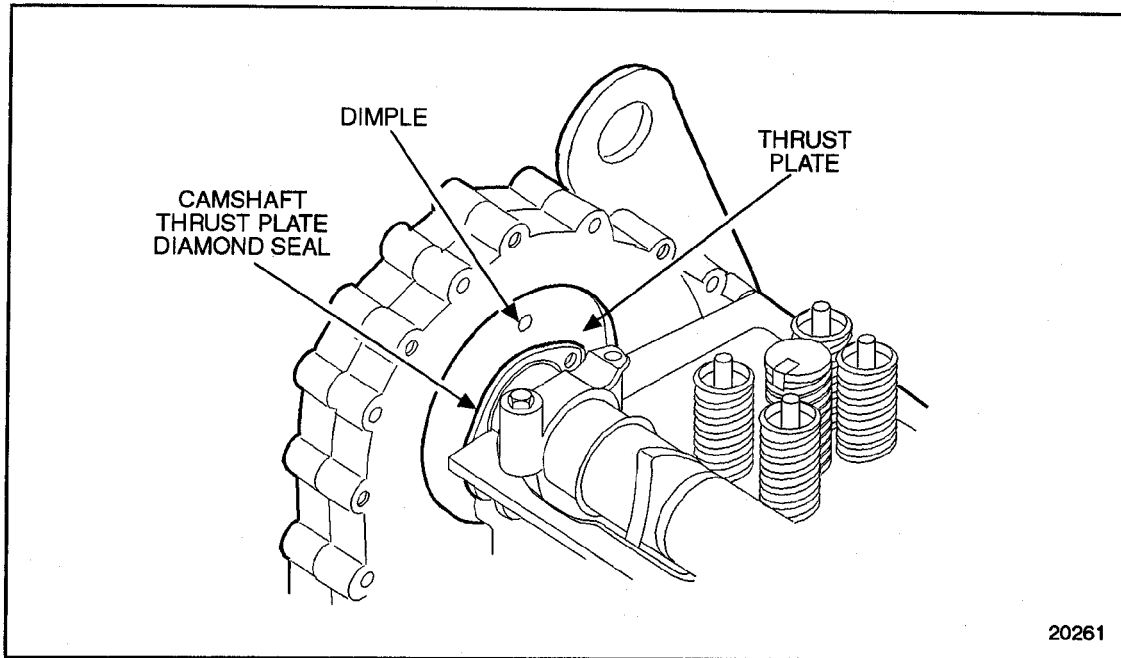

Figure 1-321 Camshaft Thrust Plate Clearance
- Using an appropriate marker, scribe a vertical locator line across the gear case and the back face of the camshaft thrust plate. This will insure proper positioning of the thrust plate during reassembly. See Figure 1-321.